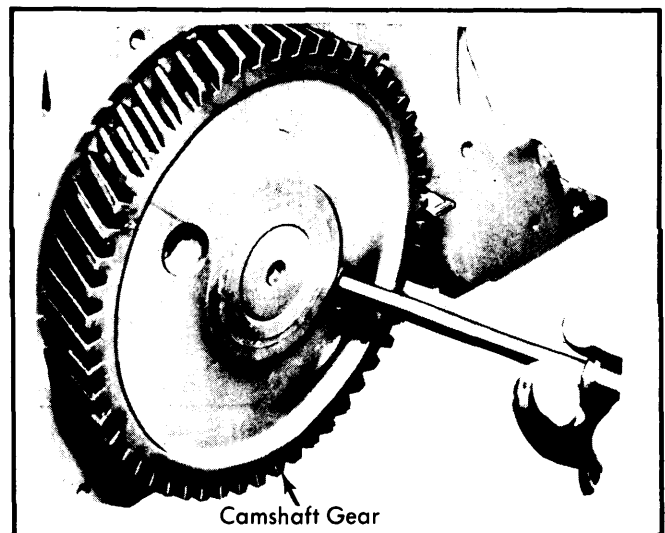

Fig. 8 Removing Thrust Plate Screw with Screwdriver Inserted Through Timing Gear
3) Remove the camshaft thrust plate retaining screws by working through holes in camshaft gear. See Fig. 8. Remove camshaft and gear assembly by pulling it through front of block. Use care not to damage camshaft bearings.